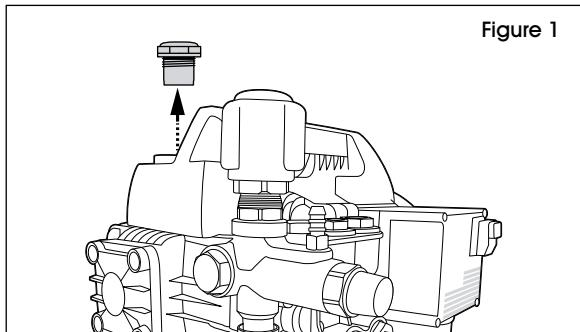

Figure 1
1. Remove red unvented shipping cap as shown. (See Figure 1)